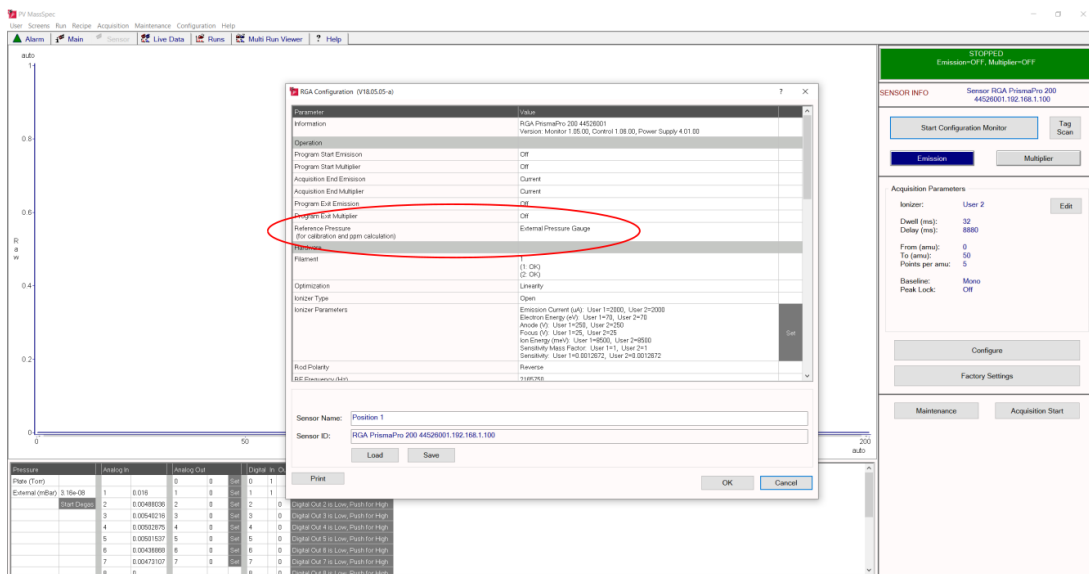

Figure 3: Set external gauge as reference pressure.
- Set the external gauge as the reference pressure (see Figure 3).